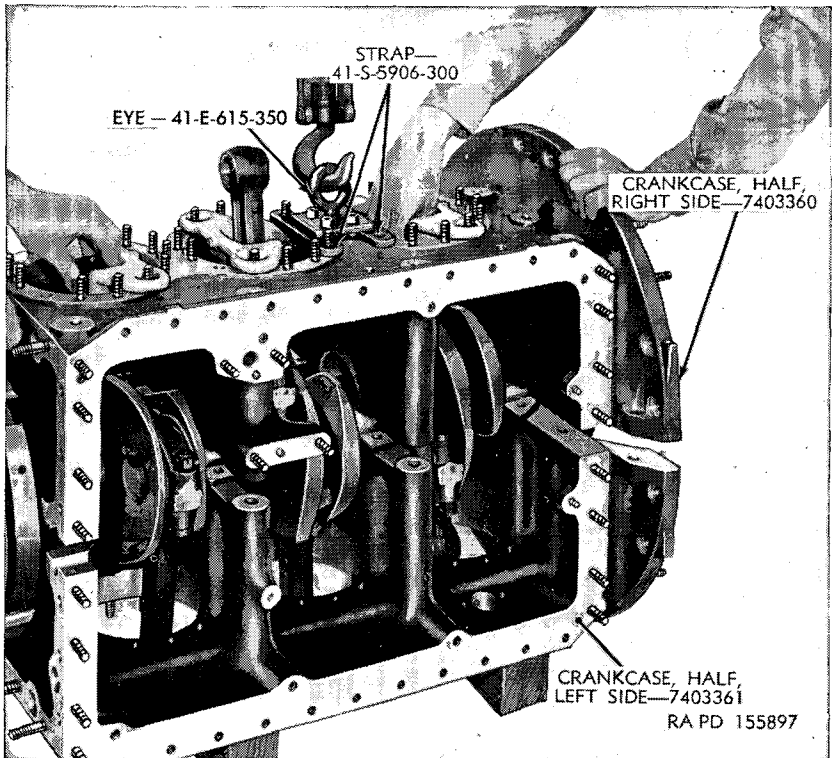

Figure 27. Separating the crankcase halves.
a. Remove the lock bolt holding the fan drive horizontal shaft bevel gear bearing (PP) in the crankcase opening. This bearing and the fan drive vertical shaft bearing (UU) can be lifted out as the crankcase halves are separated (*e* below).
b. Attach crankcase lifting eye 41-E-615-350 (fig. 27) to the crankcase. Remove the crankcase from the engine assembly stand by removing the nuts holding the transmission adapter to the stand. Place the engine, with oil pan flange down, on suitable wooden blocks on a disassembly table.
c. Remove the 12 crankcase cross bolts (H), the two special dowel-type crankcase alignment bolts (AD) in the flywheel end flange, and the one special dowel-type crankcase alignment bolt (SS) in the top flange at the accessory end. Bolts can be driven out of the case by using a soft brass drift and hammer.